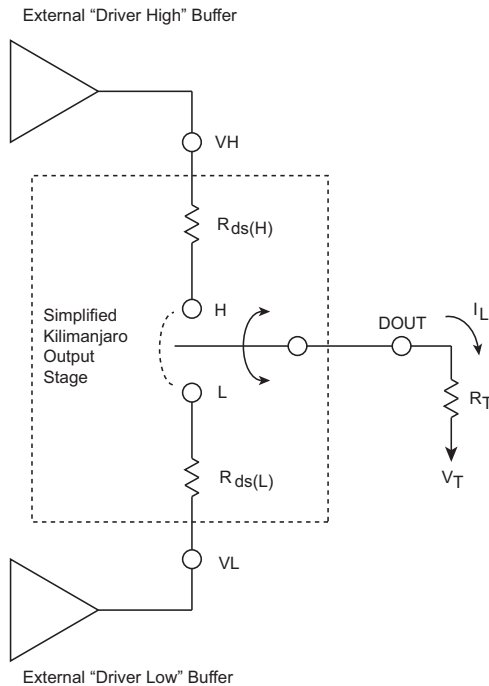

FIGURE 15. Simplified Functional Schematic of Kilimanjaro Output Stage and External Buffers
In addition to the VCC and VEE power supply levels, the “driver high” (VH) and “driver low” (VL) levels used in an application also have an effect on the total power dissipation of the device illustrated using Figure 15.
The CMOS switches of the Kilimanjaro's output stage have on-resistance values (depicted by $R_{ds(H)}$ and $R_{ds(L)}$ in Figure 15) that vary as a function of VH and VL voltage levels. The amount of current required by the load impedance, R_T , is also a function of the VH and VL voltage levels as follows:
Switch in Figure 15 is in position “H”:
Switch in Figure 15 is in position “L”:
17	Figure 15 - update figure